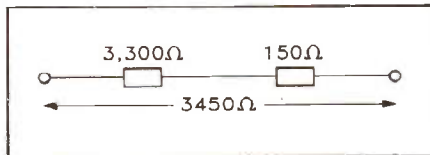

Figure 1
2) Now select a resistance value from the preferred list which when connected in *series* will just take the total value above the desired value. For example, if it is desired to make up a resistor of value 3425 Ω , first select the nearest preferred value. This, from the table below, is 3300 Ω . A preferred value resistor of 150 Ω , connected in series will increase the total resistance to 3450 Ω – just above the wanted 3425 Ω , see Figure 1.